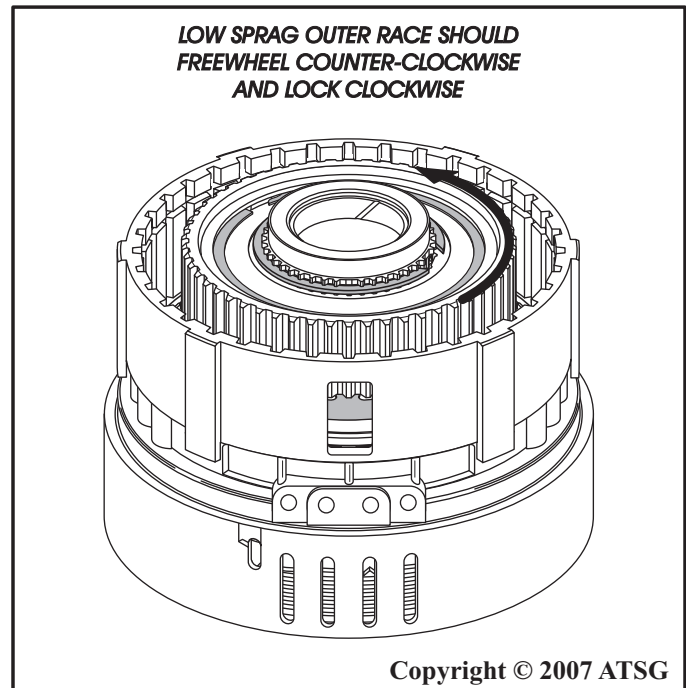

Figure 115
22. After installation, once again verify proper low sprag rotation, as shown in Figure 115.